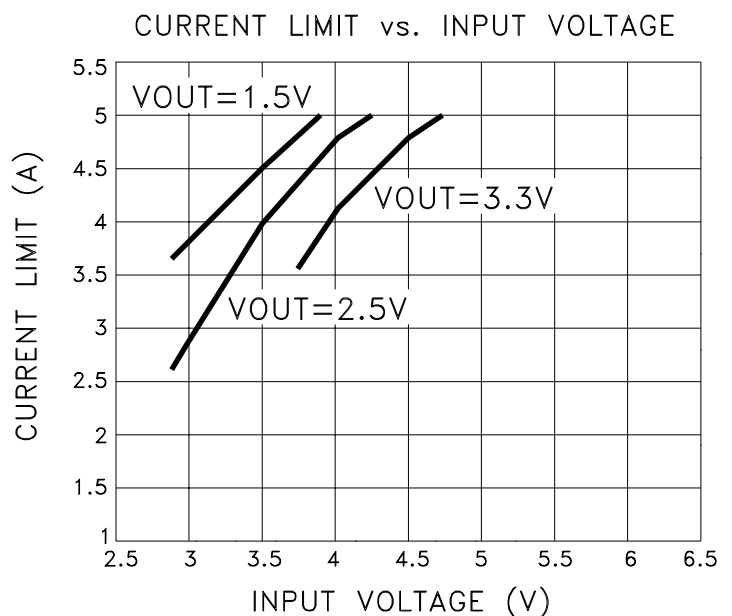

FIGURE 1
- ⑦ Output current limit is dependent upon the values of V_{IN} and V_{OUT} . See Figure 1 and typical performance curves.
- ⑧ Continuous operation at or above absolute maximum ratings may adversely effect the device performance and/or life cycle.
- ⑨ V_{IN} shall be as specified or $V_{IN Min}$, whichever is greater.
- ⑩ Not applicable when $V_{OUT} < V_{IN Min}$ - dropout voltage maximum.
- ⑪ Consult factory for post radiation limits.
The MSK 5921RH current limit function is directly affected by the input and output voltages. Figure 1 illustrates the relationship between VIN and ICL for various output voltages. It is very important for the user to consult the SOA curve when using input voltages which result in current limit conditions beyond 4.5 Amps. When using input voltages which result in current limit above 4.5 Amps, the user must maintain output current within the SOA curve to avoid damage to the device. Note that 5 Amp maximum is due to current carrying capability of the internal wirebonds.